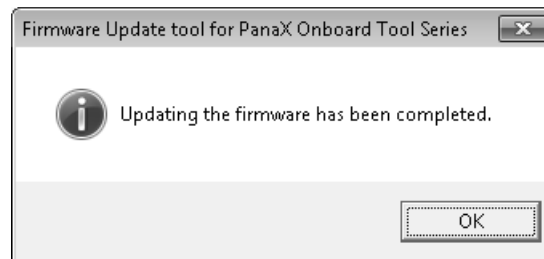

Figure 2.4.6 Completing Firmware Update
5. When the dialog shown in Figure 2.4.6 appears, the update has been completed.
When the dialog shown in Figure 2.4.6 doesn't appear after 2 minutes or more, the firmware update has been failed.